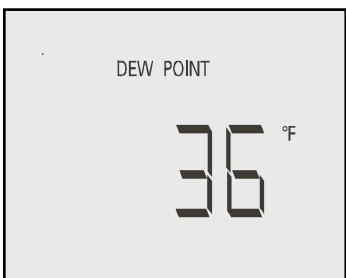

Figure 2
- 5.1.4 To Display Dew Point - Press  $\Delta$  button. Dew Point is displayed in °F. (Fig. 2)